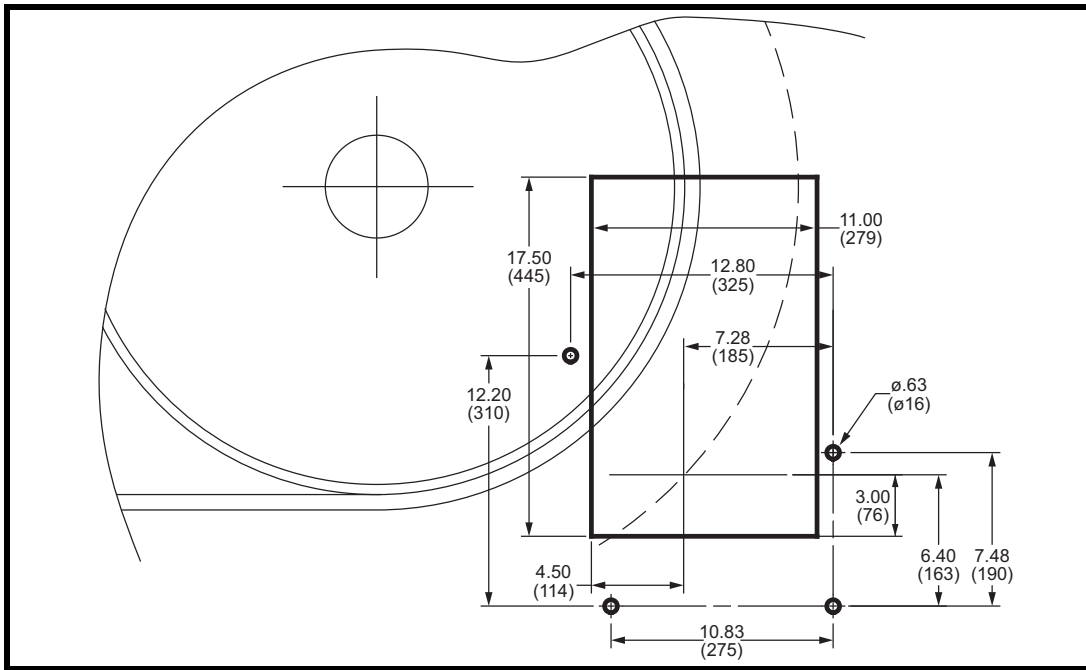
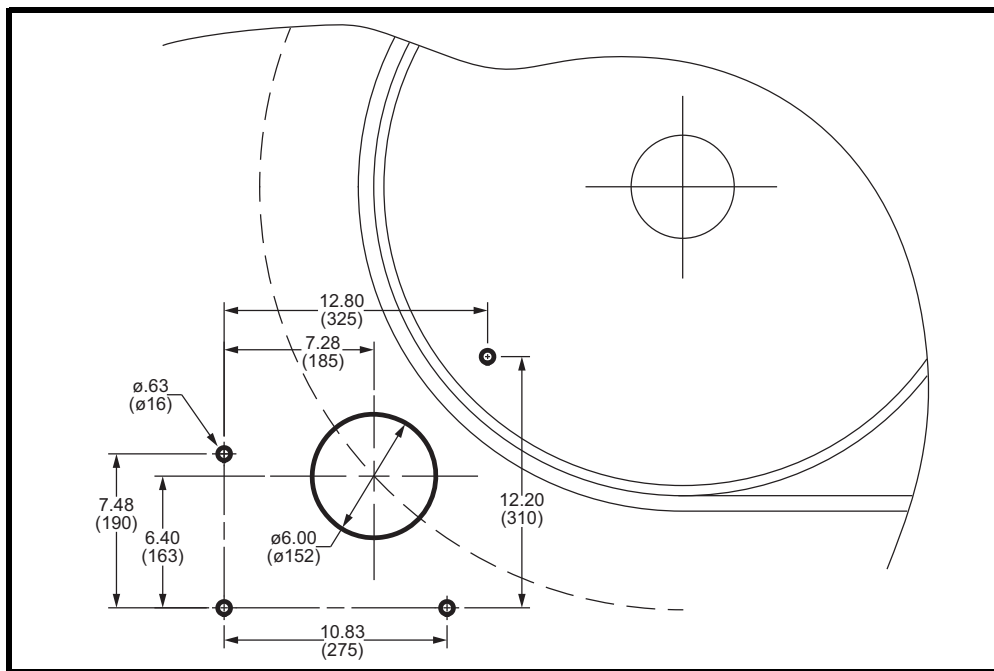

Figure 2. Operator Side Chute Cutout
Figure 3. Far Side Chute Cutout
1. Using the previously marked lines, mark the operator side chute cutout and mount hole locations as shown in Figure 2. Mark the far side chute cutout and mount hole locations as shown in Figure 3.